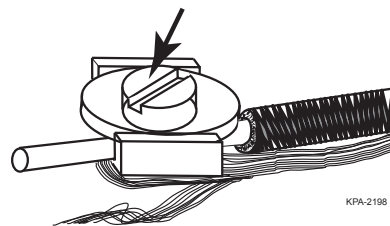

Figure 8
- If terminating a cable where temperatures fluctuate widely along the last 10 m (33 ft) of the cable, secure the strength members (Figure 8). Failing to do so may result in damage to the cable as temperatures fluctuate.